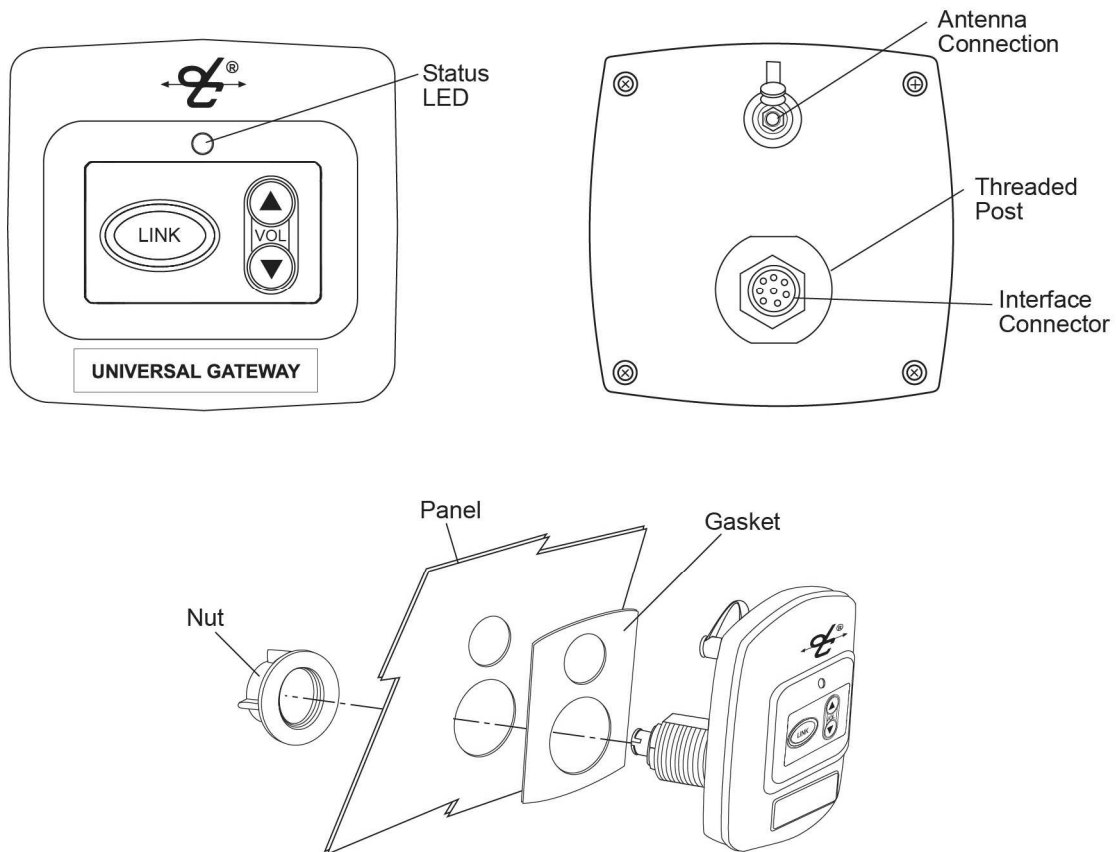

Figure 1: Overview of Gateway
The U9921-GUV(EU) is designed to add wireless capability to an existing wired intercom. Connection to the intercom is accomplished by connecting an interface cable to the interface connector of the U9921-GUV(EU) (see **Figure 1**). The following list contains David Clark intercom systems that have been tested to work with the U9921-GUV(EU) and the required cable assembly.
The U9921-GUV(EU) may be flush mounted or surface mounted using the included gasket and nut. See **Figure 1** for mounting suggestions.
Audio levels can vary between intercoms, mainly due to the system level setting on the wired intercom. To compensate for this, the U9921-GUV(EU) has the ability to adjust its receive level from the intercom using the *Vol* keys (see **Figure 1**). Pressing these keys will increase or decrease the audio level coming from the wired intercom into the gateway. Perform this adjustment to obtain optimum performance.